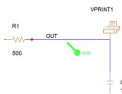

Figure 7. VDB at the OUT Node
3. Click at the point you want to see the result. Figure 7 shows a dB Magnitude of Voltage marker (abbreviated as VDB) placed at the OUT node.